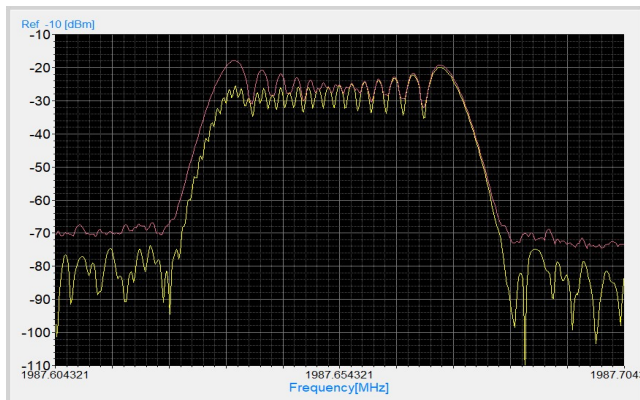

Fig.12 FM signal SPAN=100KHz, RBW=1KHz
3. Open the **SPAN** menu and set SPAN to **100 kHz**. The FM modulation envelope will become visible. Enabling **Max Hold** provides a stable display of the modulation spectrum (see Fig. 12).